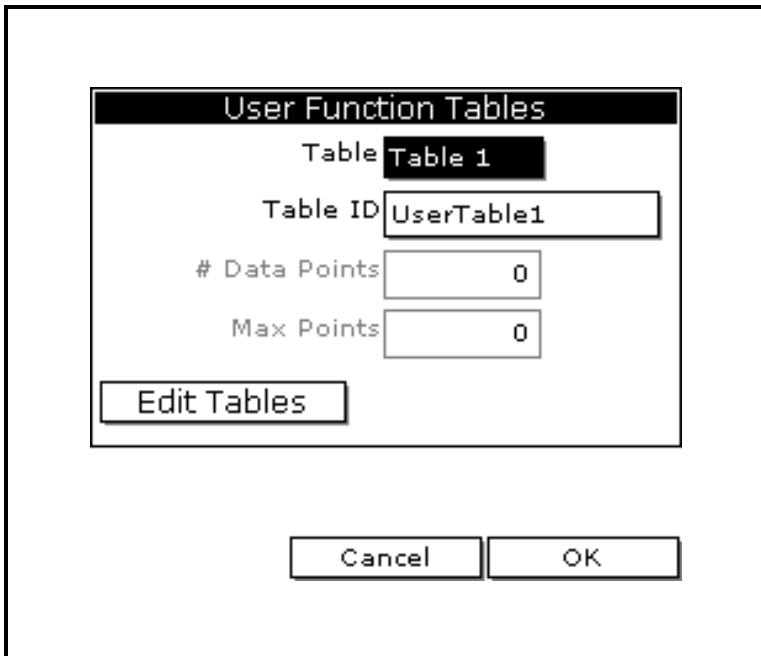

Figure 4-9: The User Tables Window
3. Use the arrow key to scroll to **User Tables** and press [ENTER]. A screen similar to Figure 4-9 below appears.